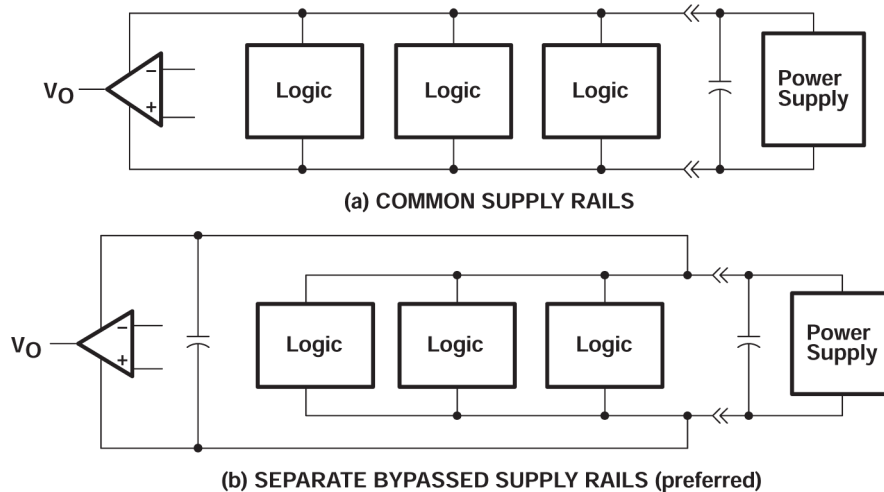

Figure 7-2. Common Versus Separate Supply Rails
1. Power linear devices from separate bypassed supply lines (see Figure 7-2); otherwise, linear device supply rails potentially fluctuate as a result of voltage drops caused by high switching currents in the digital logic.